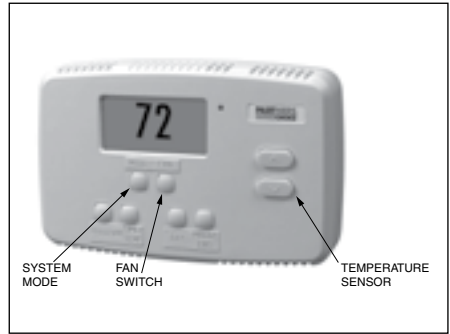

Figure 1. Typical Thermostat
1. Set the thermostat system switch to COOL and the thermostat fan switch to AUTO. (See Figure 1)
1. Set the thermostat system switch for HEAT and the thermostat fan switch to AUTO. (See Figure 1)